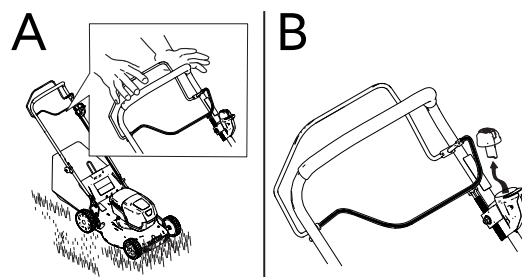

Figure 17
1. Release the blade-control bar (Figure 17 A).
Set the control switch to the 'AUTO' position to benefit from the most efficient use of battery power. Refer to Figure 17.